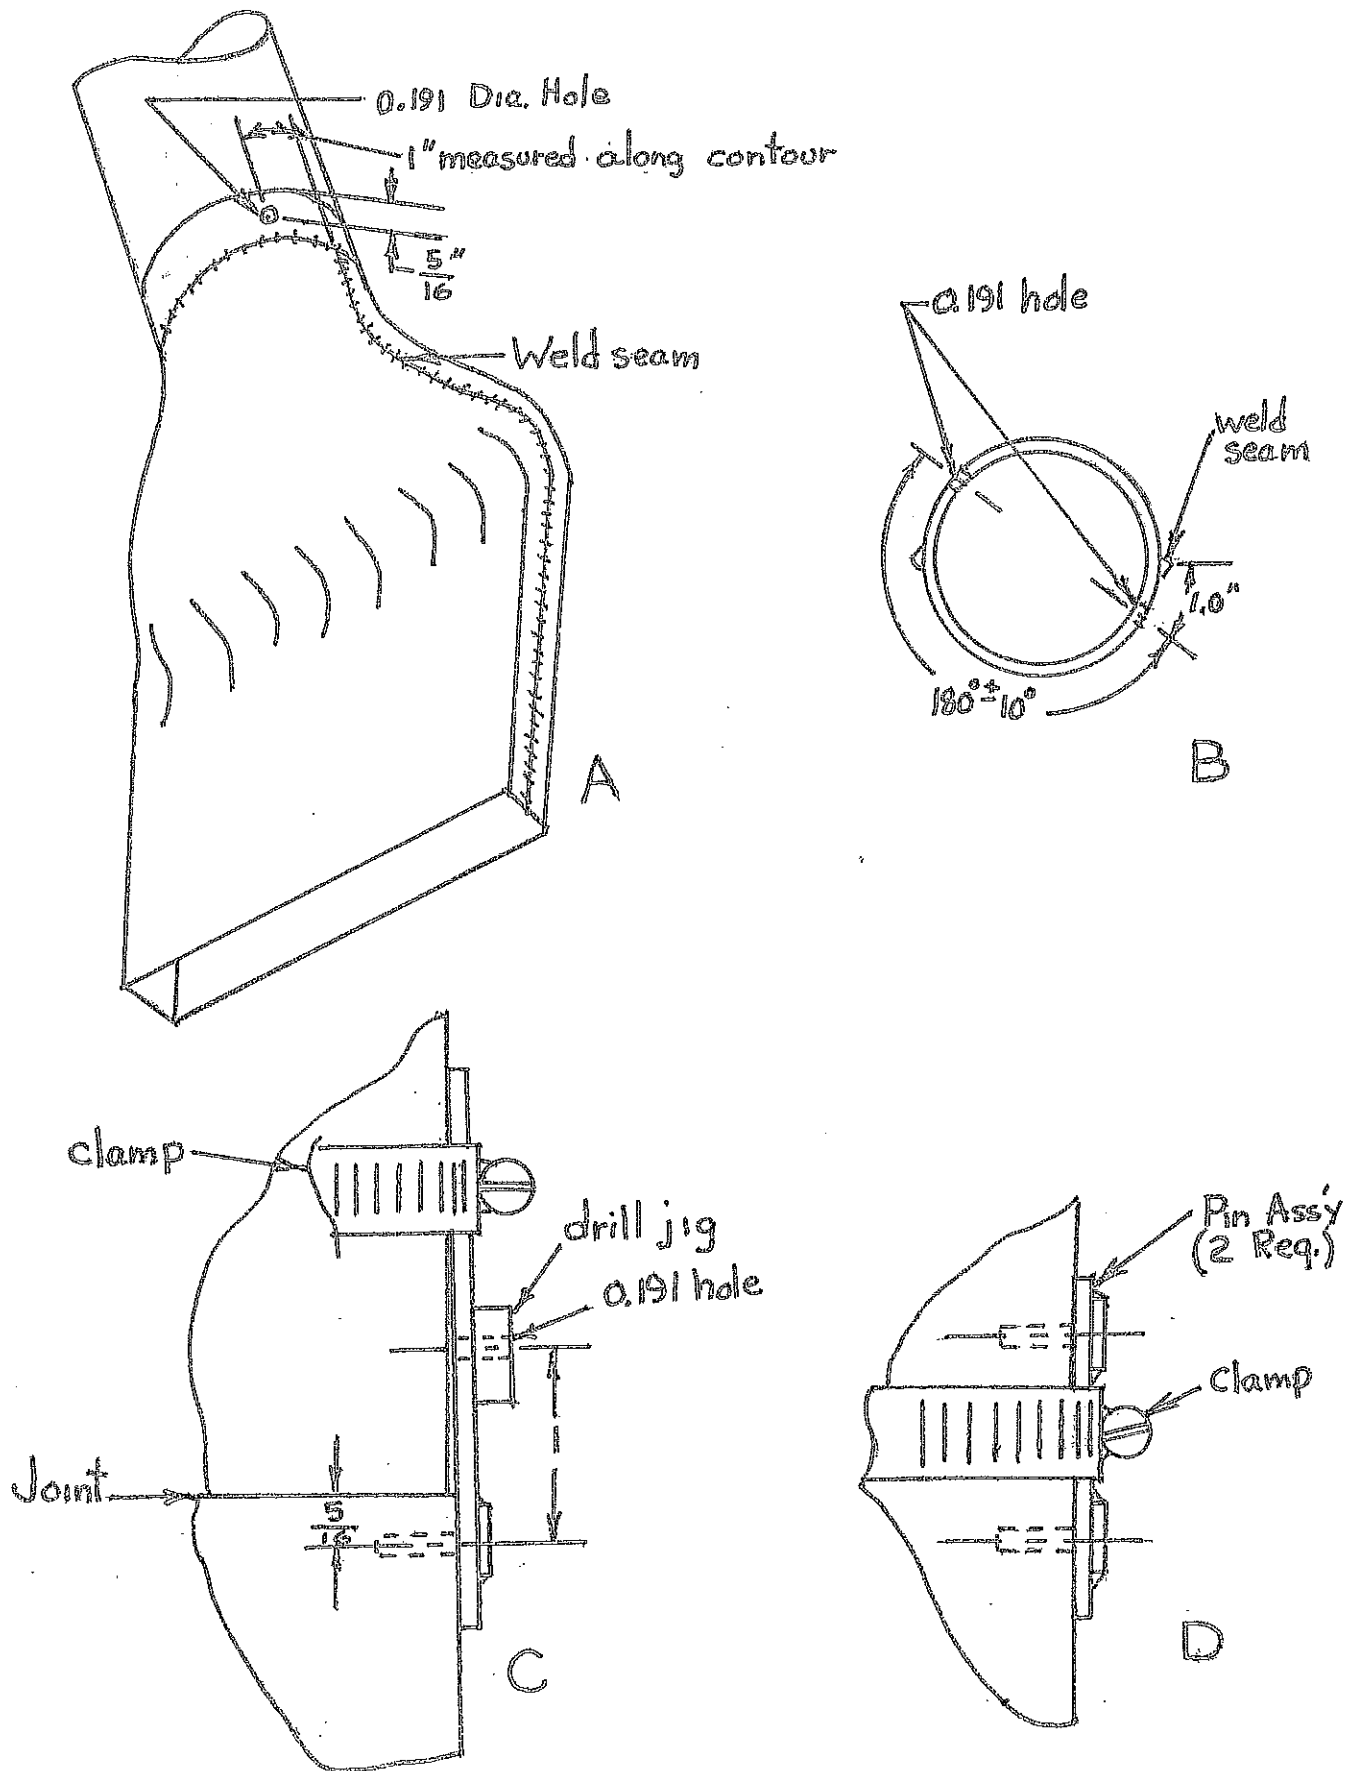

Figure C-2
- (a) Reference Figure C-2.
- (b) Drill a 0.191 inch diameter hole $5/16$ inch from top edge of spade and one inch outboard and forward of aft weld seam line. See Figure C-2 (A) and (B).
- (c) Drill a 0.191 inch diameter hole $5/16$ inch from top edge of spade and located $180^{\circ} \pm 10^{\circ}$ from hole drilled in step (b), see Figure C-2 (B).
- (d) Using drill jig as shown in Figure C-2 (C), drill a 0.191 inch hole one inch above each of the holes drilled per (b) and (c).
- (e) Install a pin assembly in each set of holes and secure with clamp. See Figure C-2 (D).
- (e) Using the drill jig as shown in Figure C-2 (C), drill a 0.191 inch diameter hole one inch above each of the holes drilled per steps (c) and (d).
- (f) Install a pin assembly in each set of holes and secure with clamp. Reference Figure C-2 (D).